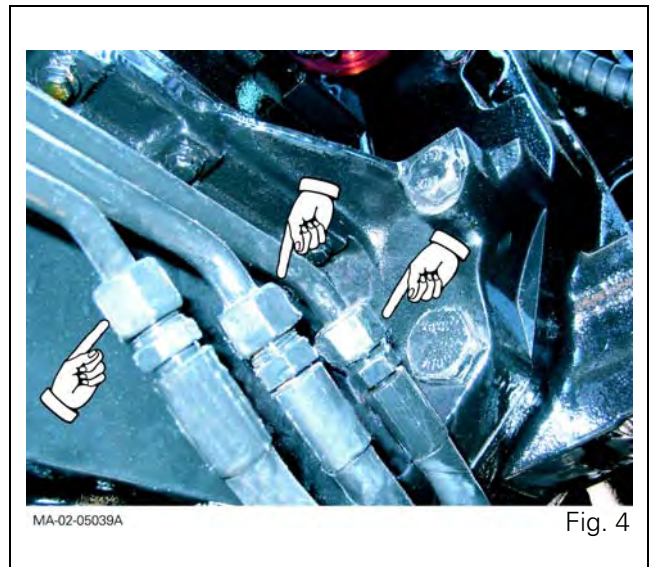

Fig. 4
- the hoses (pressure-return and LS) on the rigid pipes (Fig. 4) of the suspended front axle (if fitted).